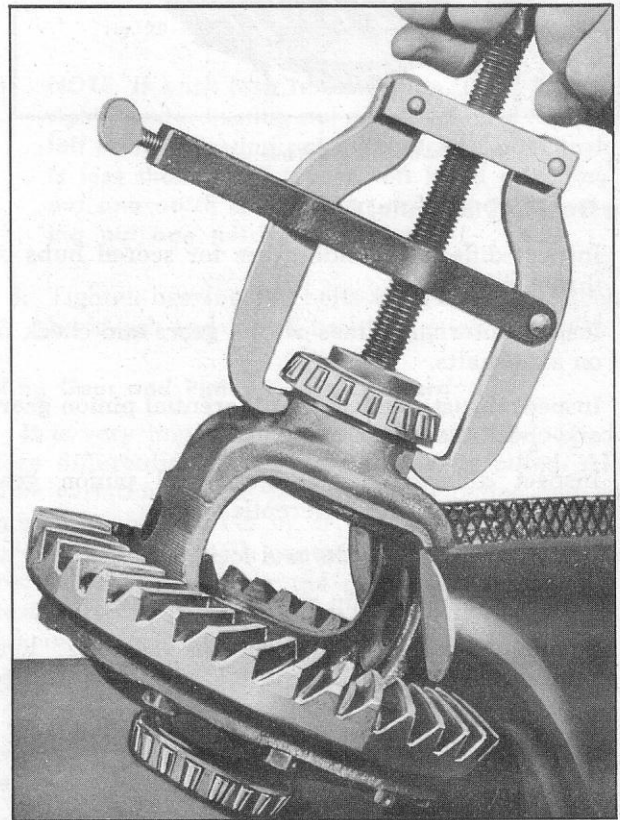

Fig. 24—Removing Differential Bearing
2. Tighten puller screw and remove bearing (fig. 24).